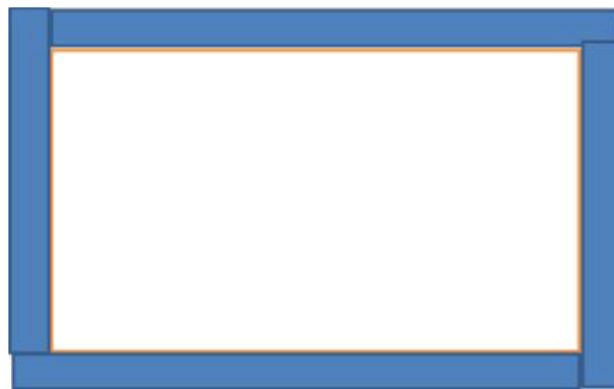

Figure 6
- 4.2.13.4. Ensure width of sheets is adequate to cover the duct and the extra width from the adjacent sheets of insulation. (Figure 6)dfggf